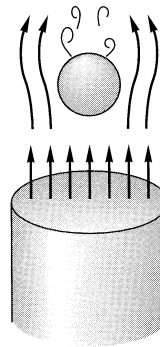

Fig. P7.84
**7.84** A Ping-Pong ball weighs 2.6 g and has a diameter of 3.8 cm. It can be supported by an air jet from a vacuum cleaner outlet, as in Fig. P7.84. For sea-level standard air, what jet velocity is required?